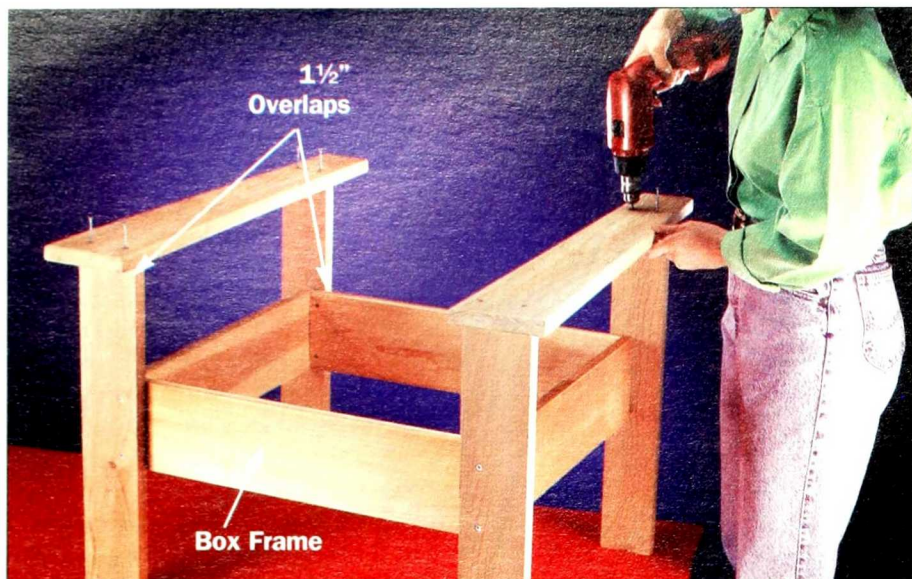
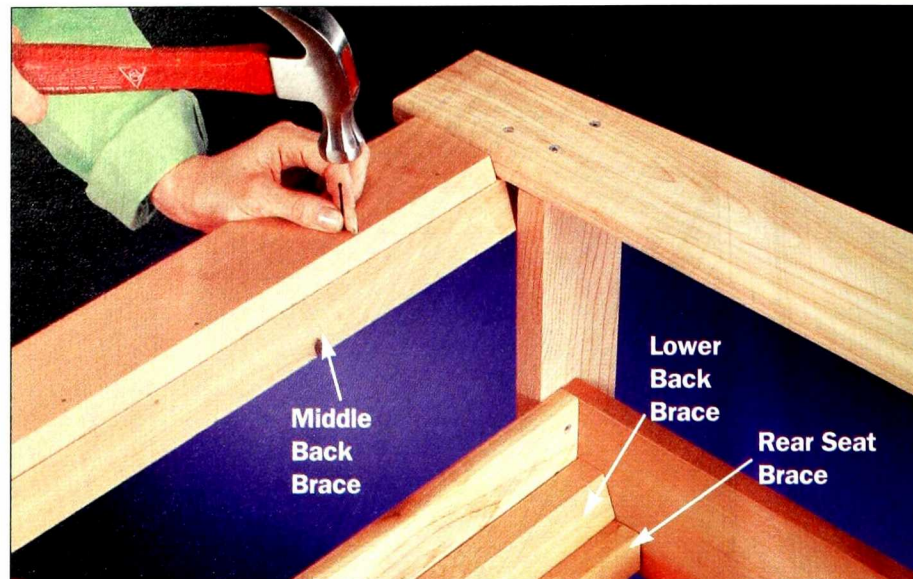

Figure 3: Screw the arms to the tops of the legs after attaching the legs to the box frame. Also use waterproof glue on all joints.
Figure 4: Glue and nail the middle back brace between the arms. Seat and back supports are glued and nailed inside the box frame.
- Predrill and then screw the arms onto the legs. The chair really starts to take shape now (Figure 3). Be sure that each arm overhangs the front and back legs as shown in the plan.
- Glue and screw the lower back brace (E), middle back brace (F), and the rear seat brace (H) as shown in the plan. Be sure that E, H, and the front seat brace (J) are screwed from the sides of the chair box as well as the front and back. All this gluing and fastening with screws may seem like overkill, but strong joints here will help relieve stress on other joints.
- Measure and cut the back stiffener (G) to fit between the back of the arms and onto the middle back brace (F), then glue and nail G onto F (Figure 4).